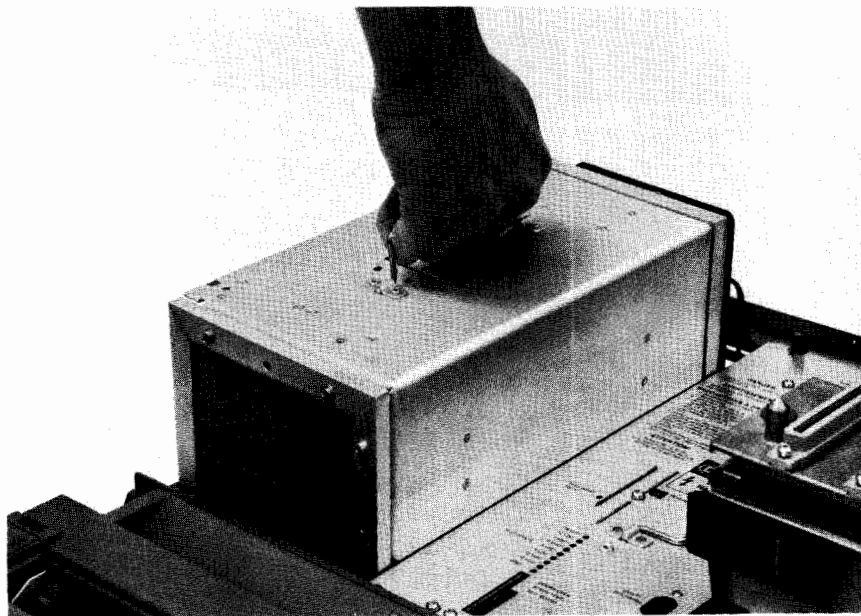

Figure 4-25. Removing Processor Stack
11. Lift processor stack up and out of computer (Figure 4-25).